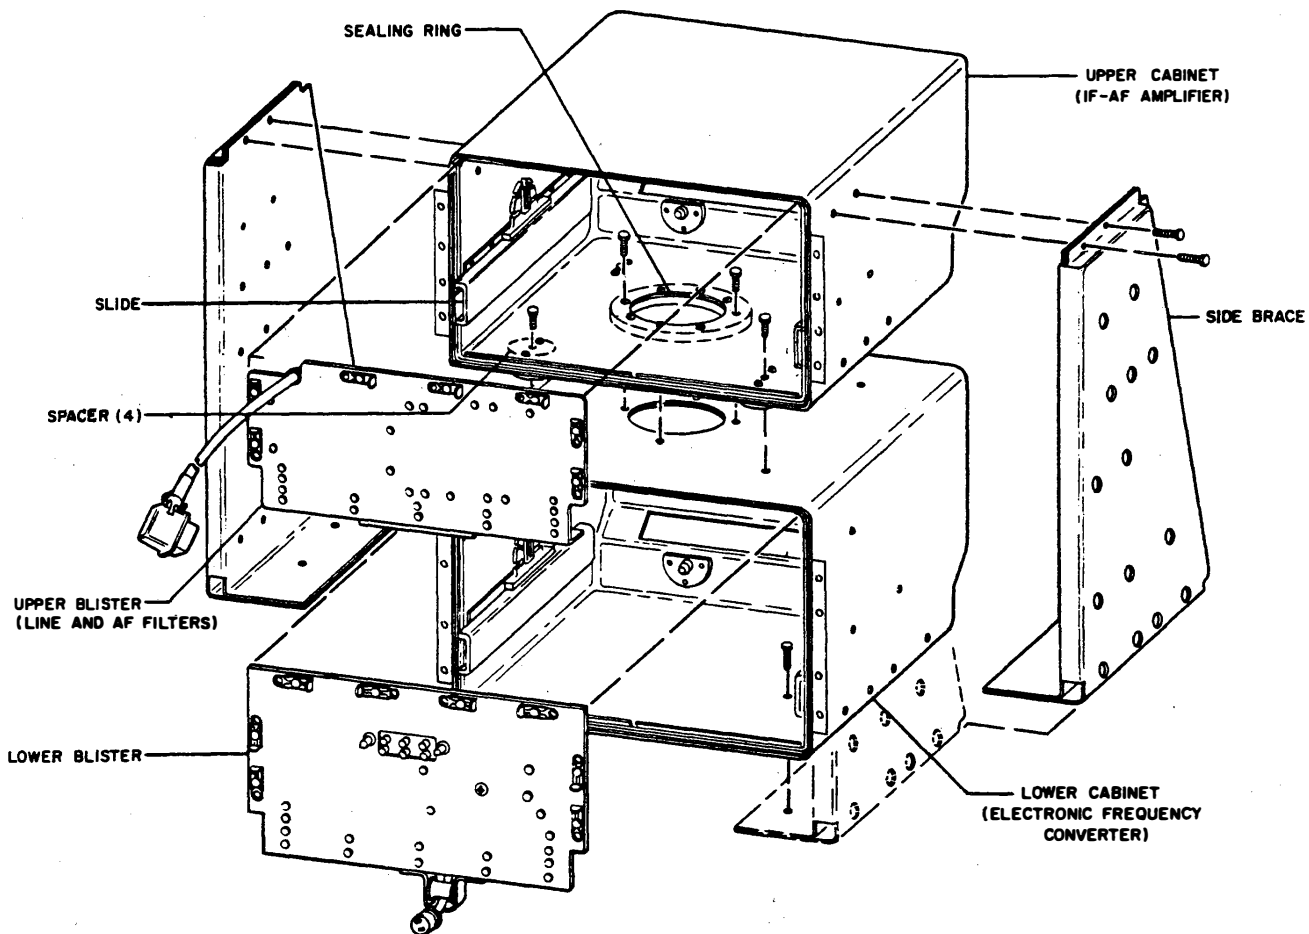

Figure 2-5. Cabinet Mounting Details
(2) REMOVING SIDE BRACES (FOR AN/WRR-2A ONLY).—As shown in figure 2-5 each of the two side braces is affixed to the joined cabinets by eleven  $\frac{1}{4}$ -inch hex-head screws. A lock washer and a plain washer accompany each screw. Detach these screws to free the brace from the cabinet side, saving the hardware for reassembly.
(3) SEPARATING THE CABINETS.